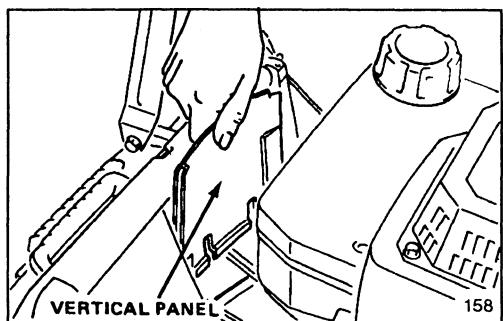

Figure 26
3. Remove the vertical panel in front of the transmission by pulling straight up (Fig. 26).